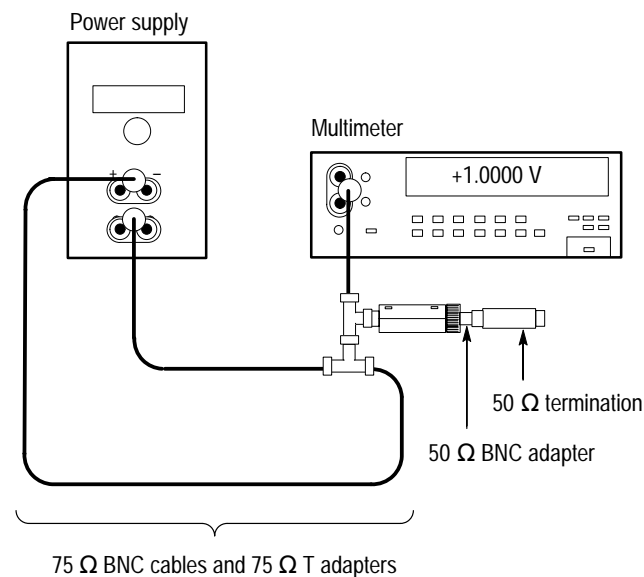

Figure 6: Measuring the power supply output voltage
2. Connect the equipment as shown in Figure 6.